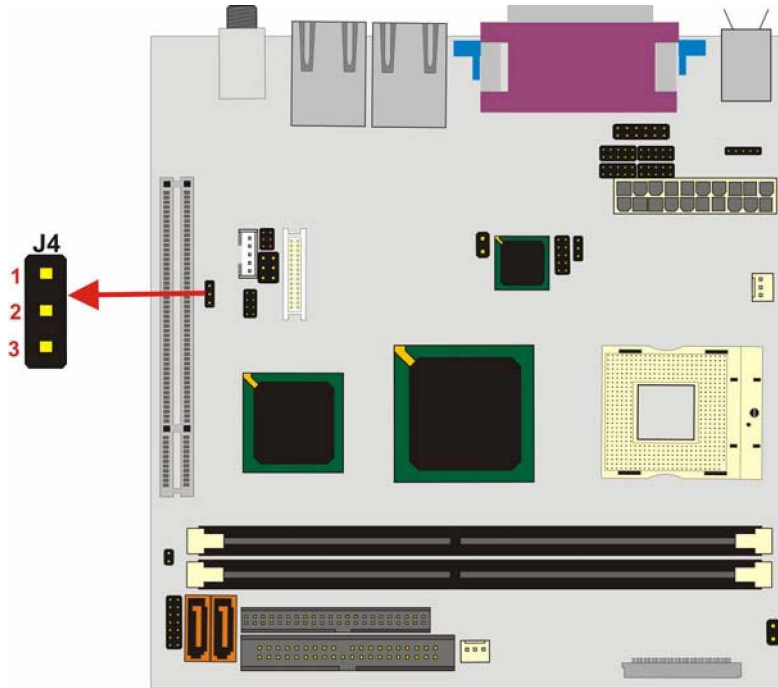

Figure 3-25: CLR_CMOS Pinout Locations
- Jumper Location:** See Figure 3-25
The clear CMOS jumper is located in **Figure 3-25**.
The CPU FSB Settings jumper is location is shown in **Figure 3-25**.
The CPU Frequency Setting jumper is location is shown in **Figure 3-25**.
The CF Card Setup jumper location is shown in **Figure 3-25**